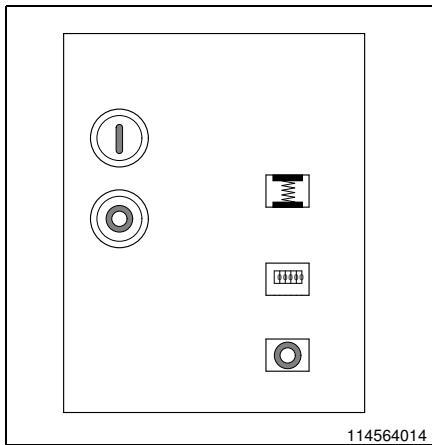

Fig. 20
- Once the tensioning process is finished the switch-on accumulator display will show the tensioned spring (Fig. 20).